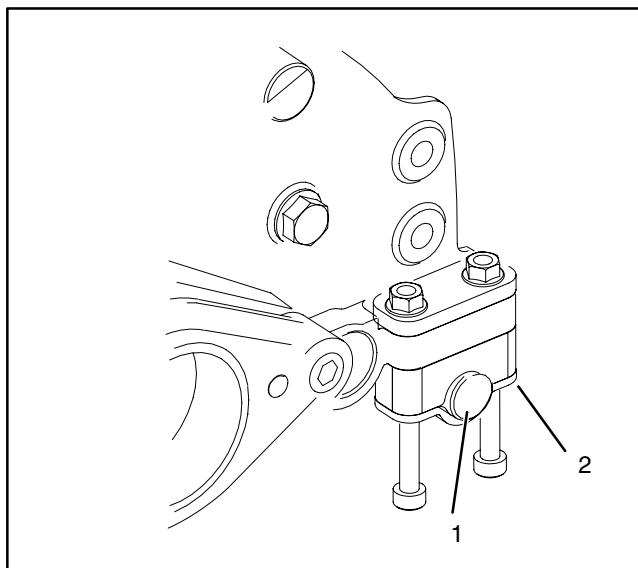

Figure 21
**IMPORTANT:** Wipe any excess grease from the inner grease seals (13) where the reel shaft V-rings (3) make contact. The V-rings should run dry.
1. Slide the left hand side plate (6) onto the reel shaft. Make sure the reel shaft threads do not damage the grease seals in the side plate.
2. Apply a film of No. 2 general purpose grease to the reel shaft threads and install the left side reel bearing locknut (8).
3. Slide the right hand side plate (10) onto the reel shaft. Make sure the reel shaft threads do not damage the grease seals in the side plate.
4. Apply a film of No. 2 general purpose grease to the reel shaft threads and install the right side reel bearing locknut (8).
5. Mount the frame assembly (17) to the side plates with the four shoulder bolts (7). Torque the shoulder bolts to **17 to 20 ft-lbs. ( 23 to 27 Nm)**.
6. Secure the grass shield (22) to the side plates with two capscrews (24), washers (23), and lock nuts (25).
7. Torque the reel bearing locknuts (8) to **50 to 60 ft-lbs. (68 to 81 Nm)**.
9. Install the rear roller as follows (Fig. 21):